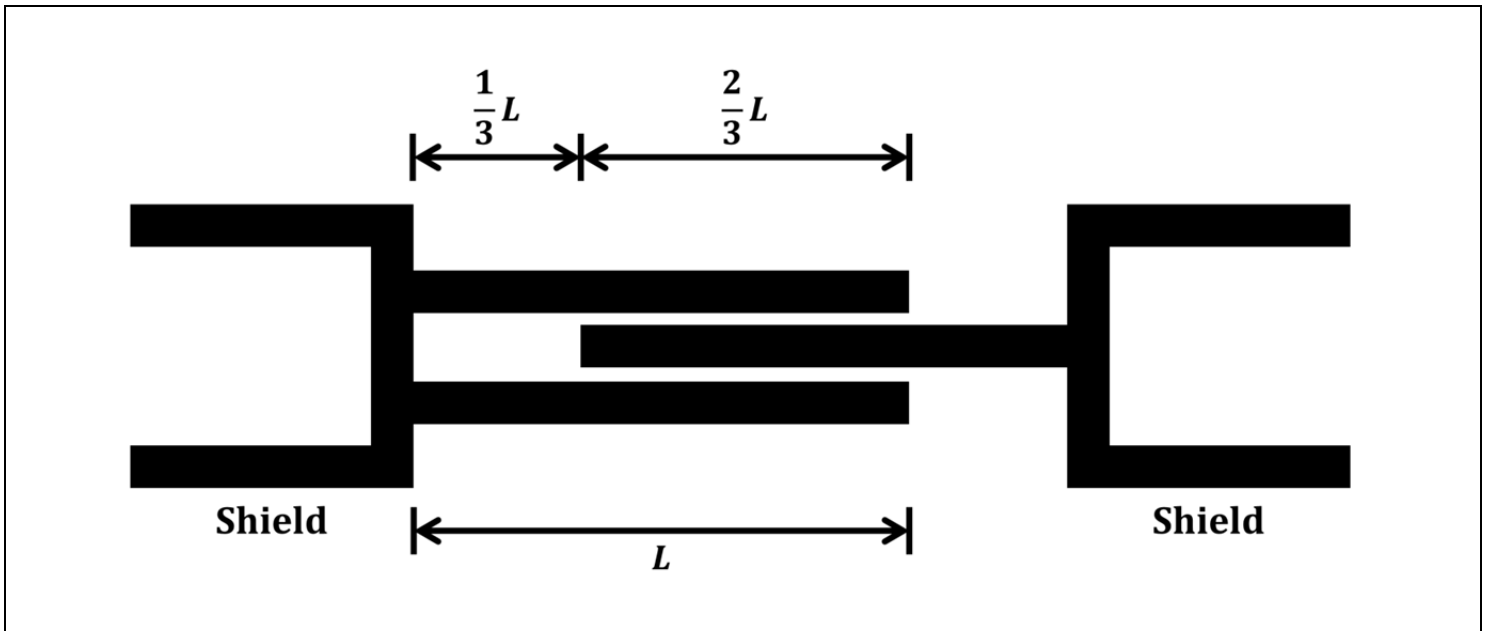
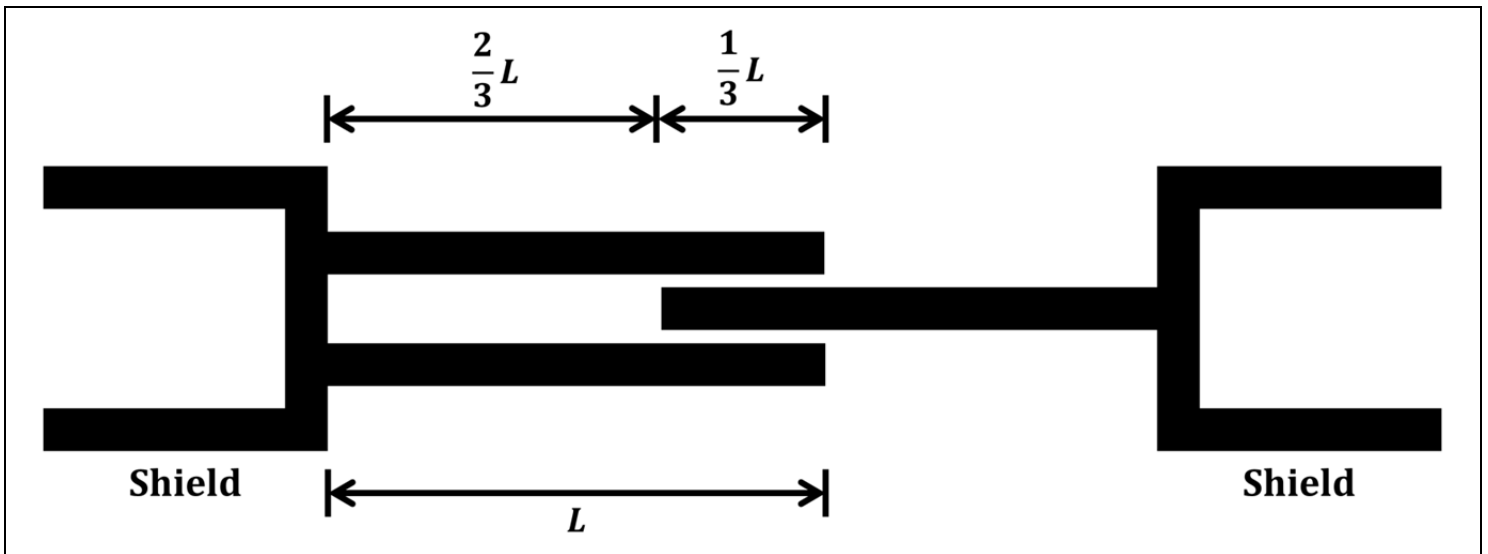

Figure 4. Recommended Profile Tube Overlap
Figure 5. Minimum Profile Tube Overlap
3. When operating the driveline, it is important to pay attention to the overlapping length of the two profile tubes. The recommended length is two-thirds of the entire tube. The minimum length allowable for safe operation is one-third of the entire tube. For further clarification, please refer to *Figure 4* and *Figure 5*, below.